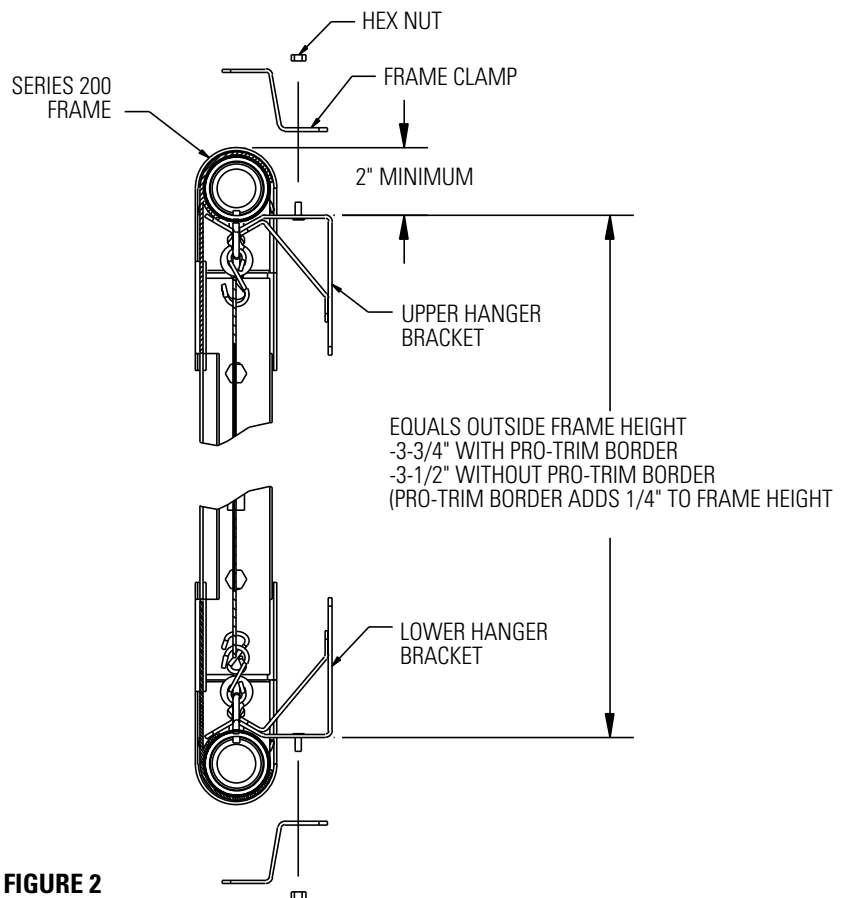

FIGURE 2
- You will need at least 2" above the hanger bracket to mount the Series 200 frame (see Figure 2).
2. Line up the lower hanger bracket with the mark and secure it to the wall. Refer to Figure 2.
3. Remove the frame clamp from the hanger brackets and position the Series 200 frame on the hanger brackets as shown in Figure 2.